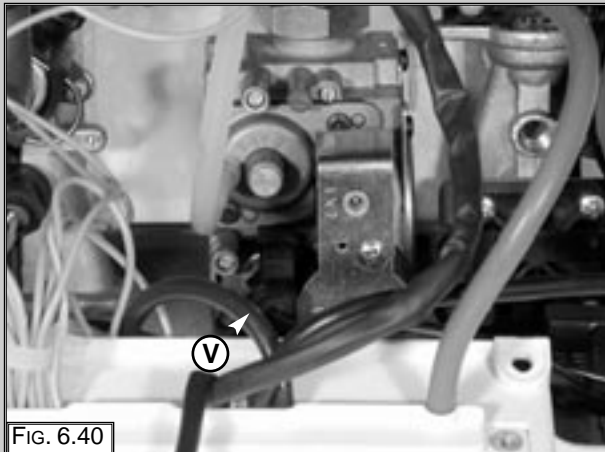

FIG. 6.40
1. Disconnect the electrical connection "V" from the gas valve (FIG. 6.40);